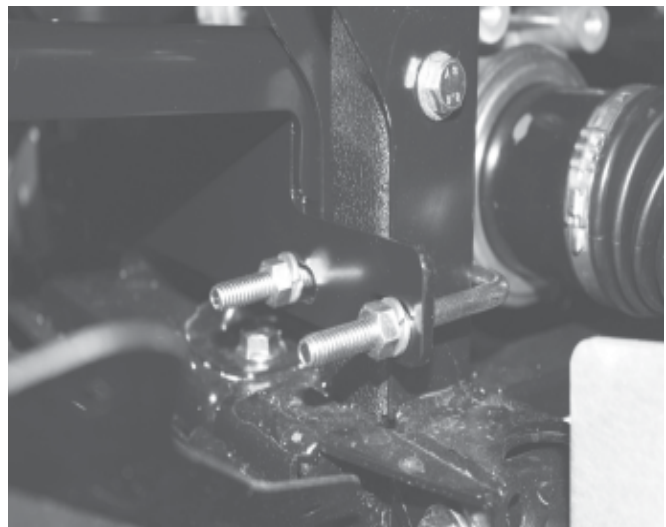

Figure 5
4. Attach the rear of the mounting plate with 2 M8-1.25 x 60mm hex head cap screw (3B), 2, 5/16 flat washers (9B), and 2, M8-1.25 flanged locking hex nuts (4B). Run the cap screws through the flange on the mounting plate into the frame and through the frame support bracket as shown in figure 5. Do not tighten at this time.
5. Place 5/16-18 x 2 x 3 x 1.5 u-bolt (6B) around the frame and into the mounting plate. Use 5/16 flat washers (9B) and 5/16-18 locking hex nuts (8B) to secure the u-bolts as shown in figure 5. Do not tighten the fasteners at this time.